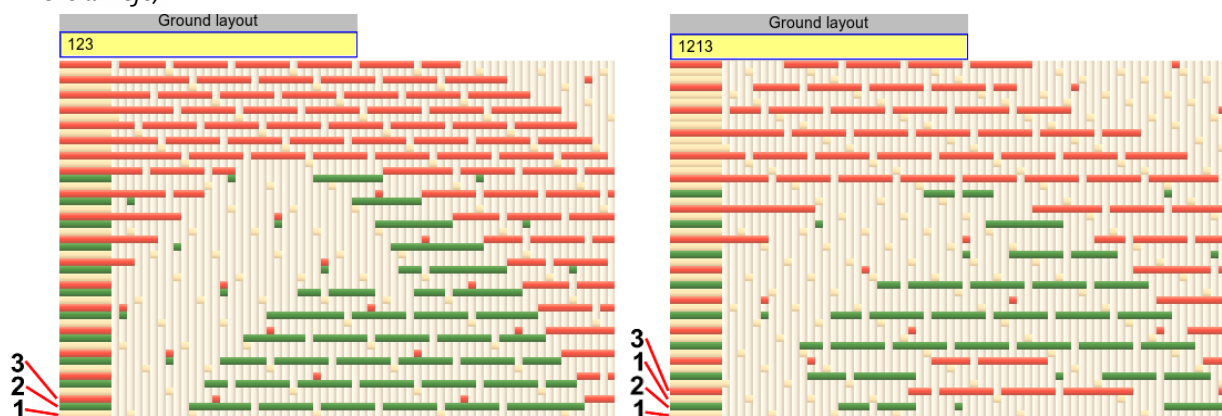

Figure 246: Simple ground layer, and two ground wefts per layer (ground weft is yellow)
- Ground layout** is powerful feature for setting different densities (number) of wefts in each layer. If the field is empty, than program takes simple order of wefts, like *ground weft, 1st extra weft, 2nd extra weft, ground weft, 1st extra weft, 2nd extra weft* and so on (as it is a default, you don't need to write it in the **Ground layout** field; empty field simply means the layout of 1234..). Figure 246 shows ground and two extra wefts in simple order 123 (*ground weft, 1st extra weft, 2nd extra weft*), and more complex **ground layout**, written as 1213, where 1 means ground, 2 and 3 are extra wefts (so order is *ground weft, 1st extra weft, ground weft, 2nd extra weft*).